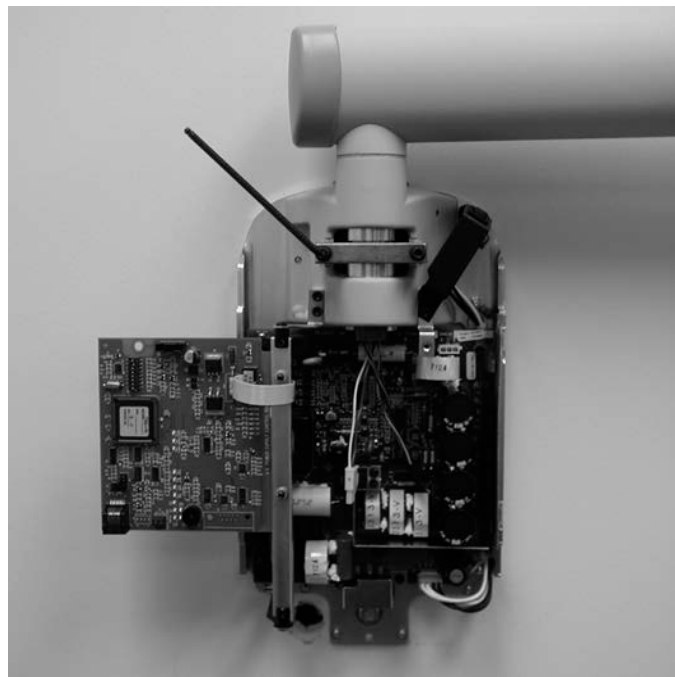

Figure 97
5. Using a 4 mm Allen wrench, as shown in *Figure 97*, tighten the screws equally to apply adequate braking to the pivot post so that Horizontal Arm begins to move after the Articulating Arm.